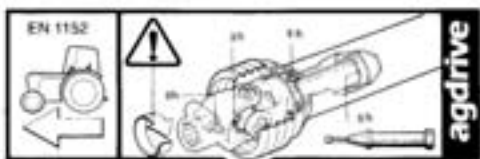

Fig. 6.1
1. Lubricate the PTO shaft with high quality multipurpose grease every 8 shaft operating hours as shown see (Fig. 6.1.). If access holes are available, lubricate fittings through access holes. E-kits need lubrication every 50 hours. See decal on guard if applicable.